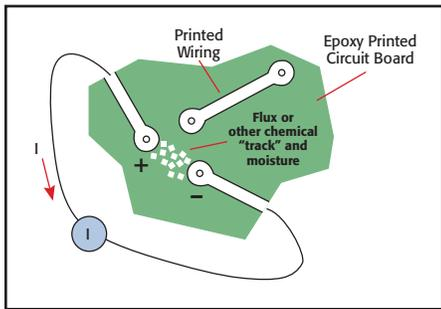

Figure 6
**Contamination and humidity** can produce error currents, which arise from electrochemical effects that occur when contaminants (in the form of ionic chemicals) create weak “batteries” between two conductors on a circuit board. For example, commonly used epoxy printed circuit boards, if not thoroughly cleaned of etching solution, flux, oils, salts (e.g., fingerprints) or other contaminants, can generate currents of a few nanoamps between conductors (see **Figure 6**). To avoid the effects of contamination and humidity, select insulators that resist water absorp-